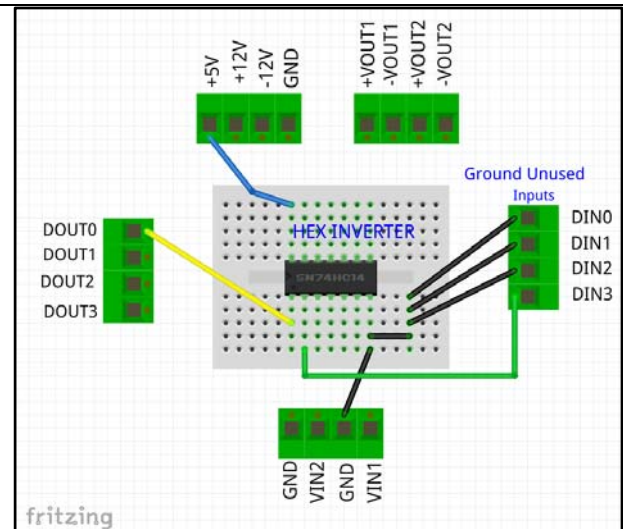

Fig 18. Test Setup
1. Connect the Hex Inverter LM7404 along with +5V supply and ground using the setup shown in Fig 18.